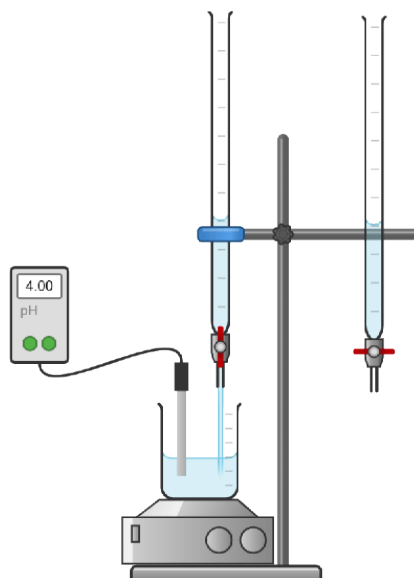

Figure 5.1.1: Buffer titration experimental apparatus setup.
2. Set up two 50-mL burets on a buret clamp and ring stand (Figure 5.1.1). Rinse and fill Buret 1 with 0.5 M NaOH solution. Rinse and fill Buret 2 with 0.5 M HCl solution. Record initial buret volumes.